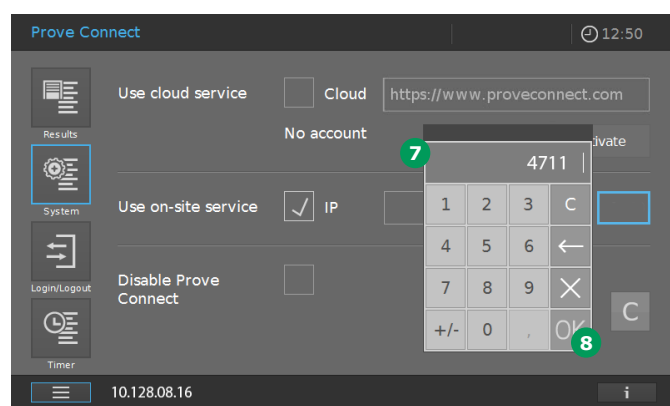

Figure 21 - Screen of Spectroquant® Prove (Figure 17) with entered Port of the PC on which Prove Connect runs
7. Open the field: Port (text box with the blue border). The entry field appears 7 (Figure 21).
9. Confirm the entered Port with "OK" 8 (Figure 21).